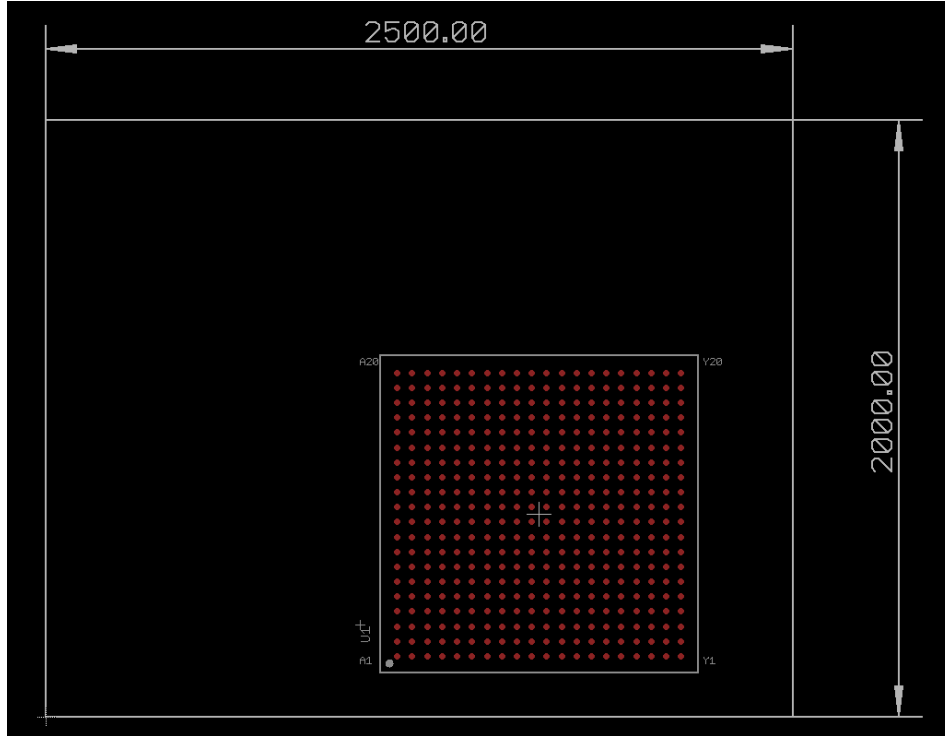

Figure 7 OSD335x Layout
- Draw the outline of the board and place the OSD3358-512M-BAS footprint as shown in Figure 7.